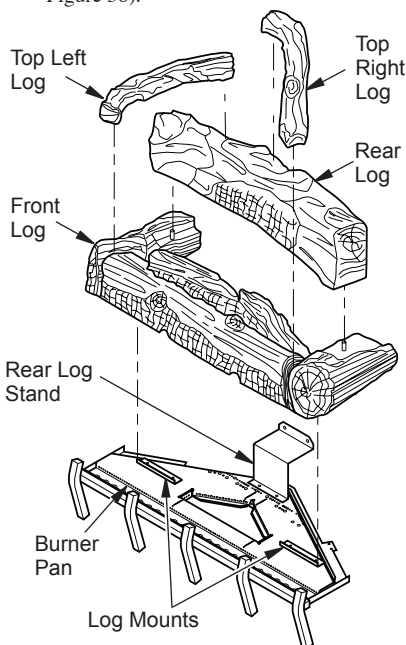

Figure 58 - Installing Logs
1. Position the base log onto burner log mounts. (see Figure 58). **Note:** The cut out on the bottom should fit over the mounts and the base log should be positioned against the rear panel.
2. Position the holes on the bottom of the rear log over the pins on the base log (Figure 58).
3. Position the top left log and top right log onto the rear log and base log as shown in (see Figure 58).